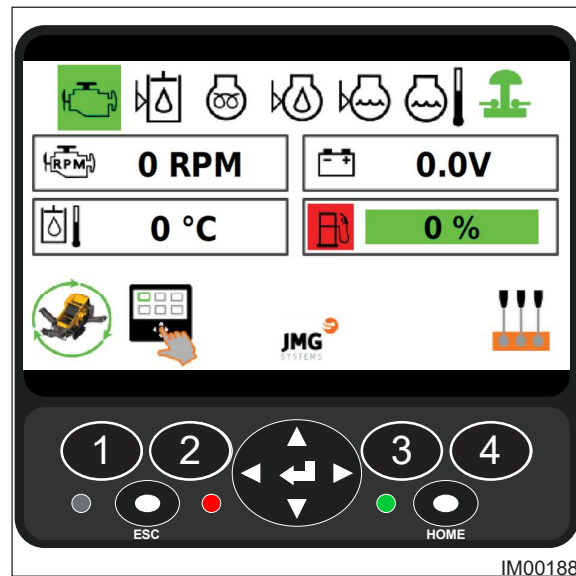

Fig: 8.9 - Home Screen
4. On the Home Screen (Fig: 8.9), press the Machine Operating button (Item 1).